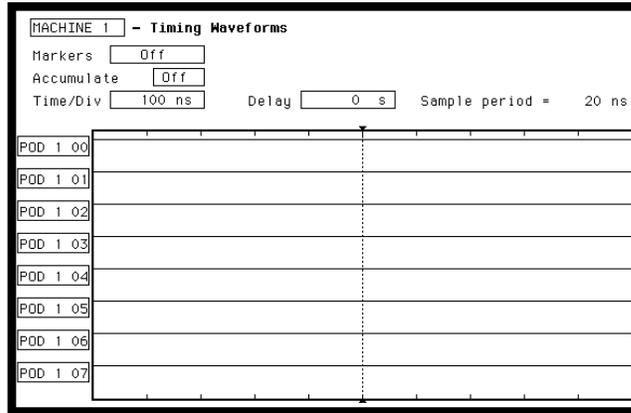

Figure 3-38. Threshold Accuracy Timing Waveforms 1
6. Press RUN. Data displayed on **Timing Waveforms** is be high for the pod and channels under test as in figure 3-38.